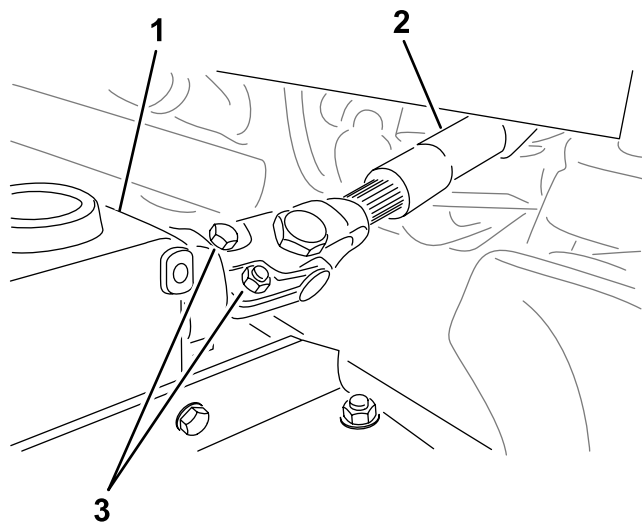

Figure 21
- Remove the bolts and nuts from the PTO shaft (Figure 21) and slide the yoke out of the gearbox.